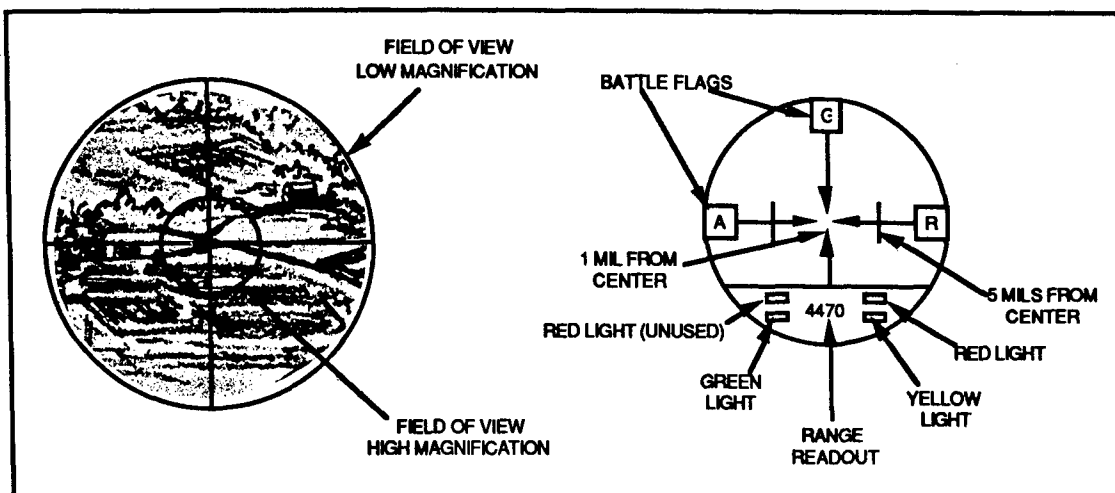

Figure 3-1. TSU Fields of View.
- Using Telescopic Sighting Unit (TSU) to determine range. When the sight is operating in the HI position, the gunner can see 4.6-degree FOV. The reticle image displayed in the TSU, as shown in Figure 3-1, consists of an outer circle with a vertical and a horizontal cross hair. Vertical marks that aid the gunner in estimating range to the target are positioned along the horizontal crosshair on high magnification only. The distance between the outer vertical marks is 10 mils; the inner marks, 2 mils. At the center of the sight reticle is an opening that is 0.4 mils wide, this area displaces a 54 inch square at the maximum range, 3750 meters, of the missile. This is the aiming point for the gunner when he is sighting on targets.